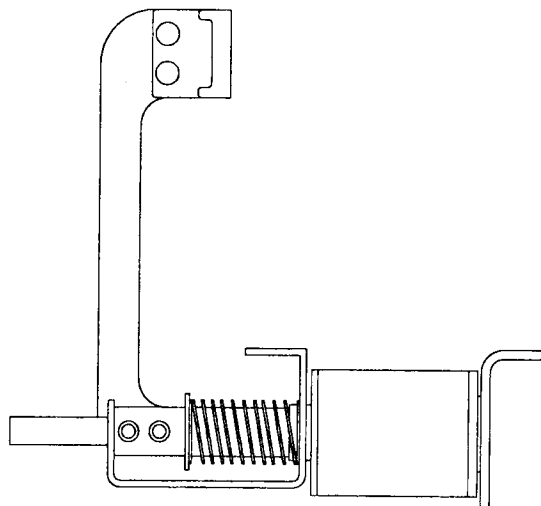

Fig. 4
d. Entire kicker assembly can be removed from mini-playfield. (See Fig. 4)